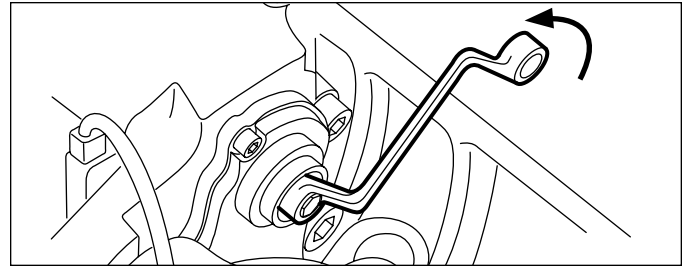

FIGURE 20 - BACKING-OFF (INCREASING) THE RUNNING CLEARANCE
4.2.2 Using a 10 mm. six-point box wrench, turn the Shear Adapter (61) **counter-clockwise** and listen for the sound of 3 clicks as the mechanism backs-off (increases) the running clearance. Note: Do not use an open-ended wrench as this may damage the adapter. See Figure 20.